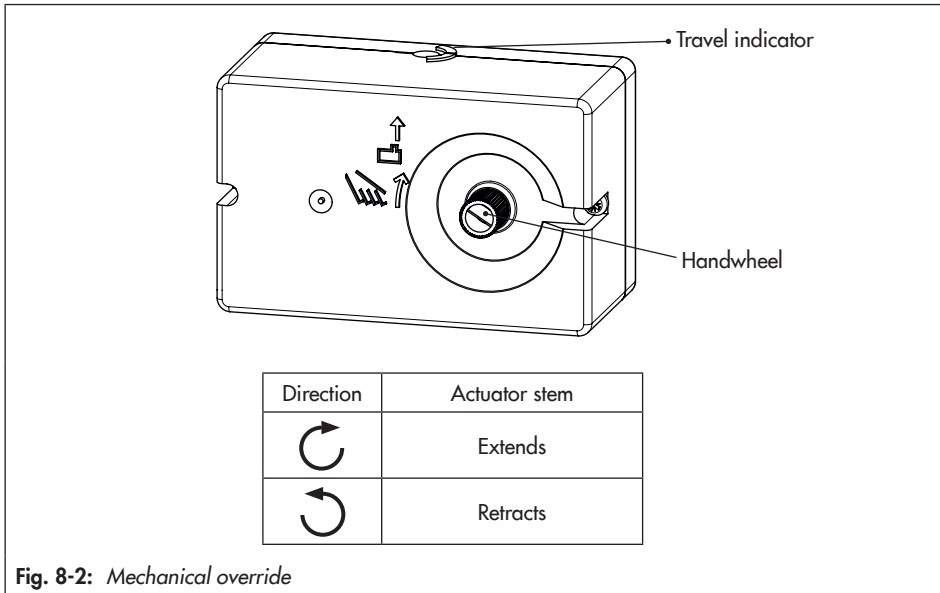

Fig. 8-2: Mechanical override
- Turn clockwise: the actuator stem extends (see Fig. 8-2).
- Turn counterclockwise: the actuator stem retracts (see Fig. 8-2).